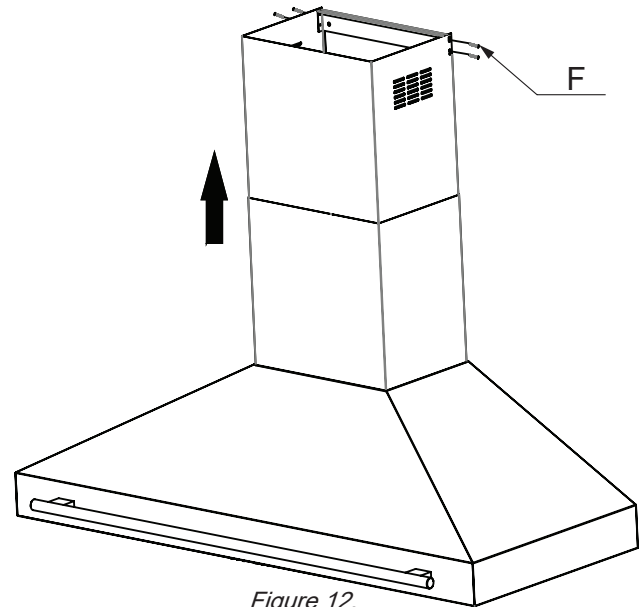

Figure 12.
15. Extend the upper chimney section (2.1) upward until the vertical vent slots are fully visible and aligned with the chimney mounting bracket. Figure 12.
16. Secure the upper section to the bracket using the provided M4 × 0.472" screws (F). Make sure both chimney sections are stable, aligned, and firmly seated. Figure 12.